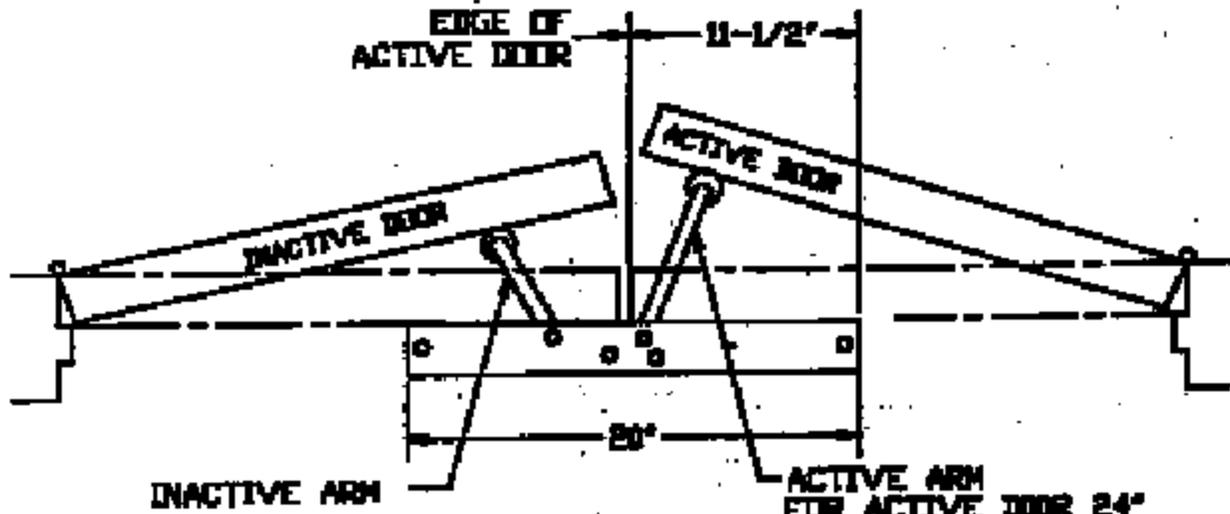

FIG. 1
1. BEFORE SPOTTING HOLES, INACTIVE (SHORT) ARM MUST BE ORIENTED WITH INACTIVE DOOR. PREP FRAME (FIG 1 & 2)
2. MOUNT COORDINATOR WITH (6) 10-32 MACHINE SCREWS OR (6) #10 WOOD SCREWS (FIG 1)